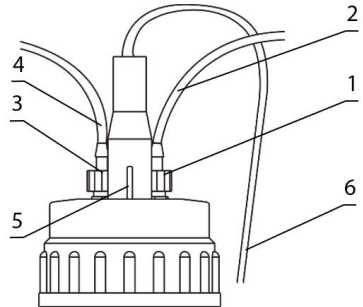
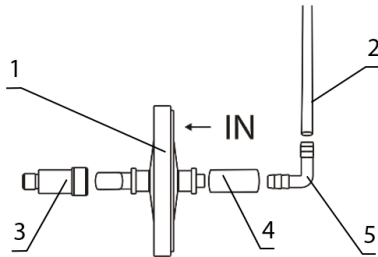
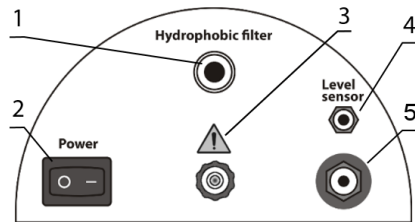

Figure 4. FTA-2i lid with sensor and tubing
Figure 6. FTA-2i filter setup.
Figure 7. FTA-2i rear panel.
1. Lid (see fig. 4). 2. Trap flask.
- Assemble the filter set (figure 6) and connect it to the port on the rear panel of the unit (fig. 7/1).
Caution! Position the filter with the **IN** marking pointing away from the unit (fig. 6/1).
- Attach the fitting (fig. 4/1) of the tubing to the filter (fig. 4/2) to the valve with **white** ring on the lid.
- Ensure that the filter set is tightly fixed in the slot (fig. 7/1).
- Attach the fitting (fig. 4/3) of the tubing for liquids (fig. 4/4 and 5/3) to the valve with the **blue** ring on the lid.
- Connect the sensor cable (fig. 4/5) to the lid of the unit and to the port on the rear panel of the unit (fig. 7/4).
- Connect the external power supply unit into the socket at the rear side of the unit (fig. 7/5) and position the unit for an easy access to the external power supply and the power switch.
8.1 Different aerosols and vapours from volatile and hazardous agents can have a damaging effect on the specific parts of the units. Please see below for **FTA-1** and **FTA-2i** material compatibility tables 1 and 2 with different common laboratory chemicals. It is required to use the **FTA-2i** pump's exhaust (fig. 7/3) by connecting it to the means of required filtration through a tube or, alternatively, by placing the unit in a fume hood when working with volatile and hazardous agents. **FTA-1** does not have pump exhaust connector available; therefore, it is obligatory to place the unit in a fume hood. It is suggested to test the compatibility of related parts to a specific chemical prior to extensive use. Biosan does not warrant that the data in the tables is correct or comprehensive and that any material is fit for any purpose.